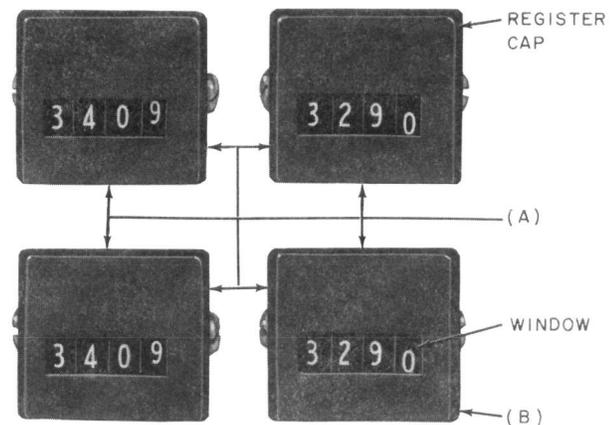

Fig. 10—Register Mounting and Alignment
2.08 Register Mounting and Alignment: Fig. 10, (A)—Register shall be mounted approximately level and shall be fastened securely to the mounting plate.
2.09 Register Cover Assembly Fit: Fig. 10, (B)—The register cover assembly shall be held firmly in position on the register but shall be removable with the 90B cap remover.